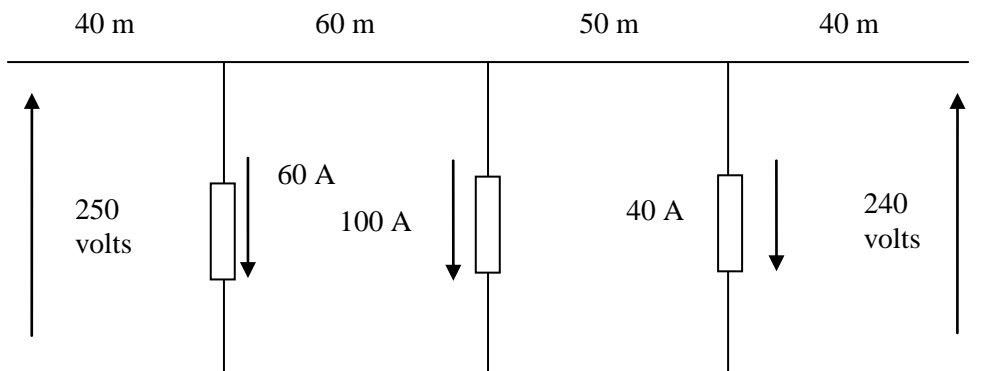

Fig Q1
1. Fig Q1 shows a supply system fed with a different voltage at each end. The resistance of the twin supply cable ('go and return') is $0.001 \Omega/\text{m}$.